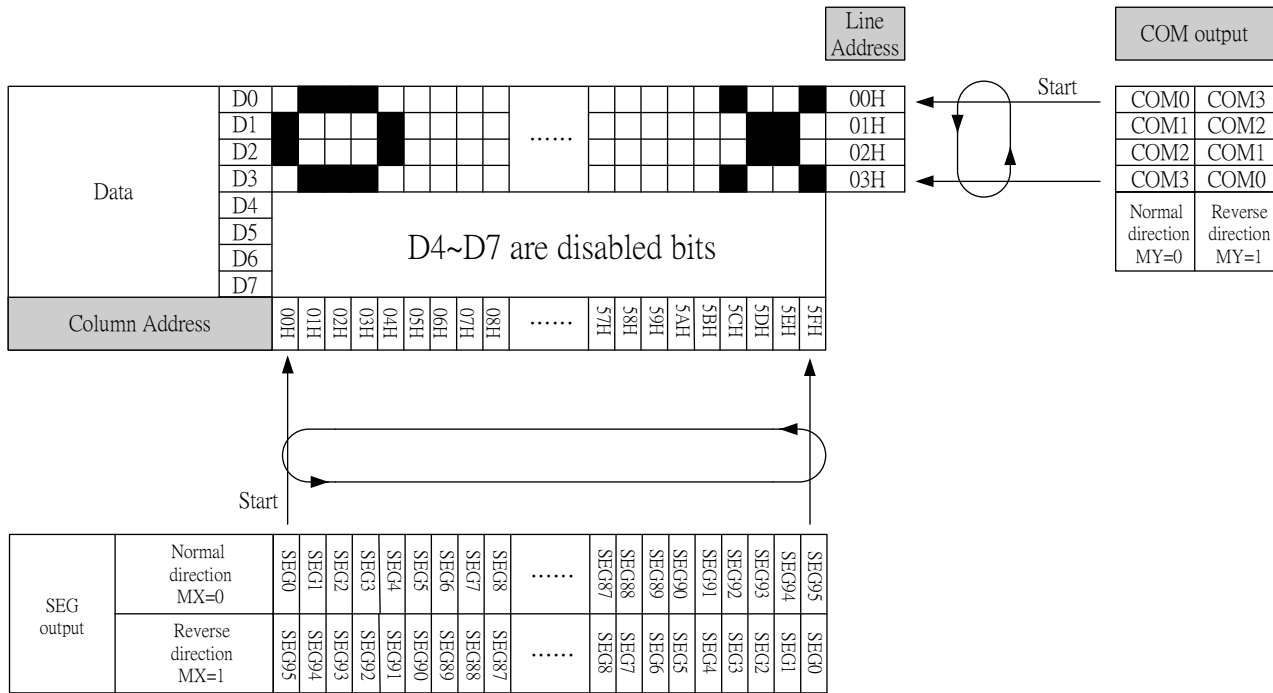

Figure 4. Display Data RAM Map (1/4 Duty)
Data is downloaded in bytes into the RAM matrix of ST7033 as indicated in Figure 4. The display RAM has a matrix of 4 by 96 bits. The address pointer addresses the columns. The column address ranges are: 0 to 95 (1011111), .Addresses outside these ranges are not allowed. After the last column address (95) wraps around to 0 .